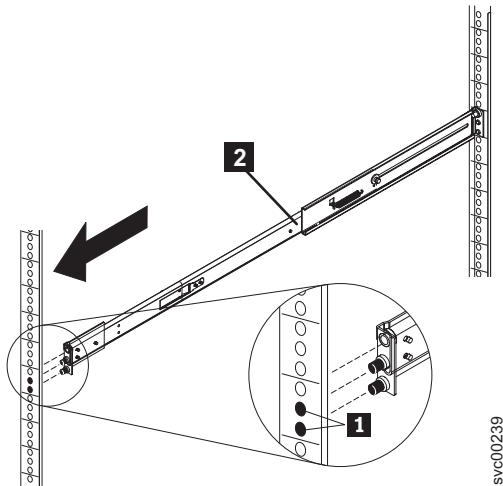

Figure 57. Extending the right slide rail
4. Extend the right slide rail **2** and insert it into the front rack mounting flange, as shown in Figure 57 on page 74, with the rail pins **1** protruding through the flange. Insert the left slide rail in the same way.